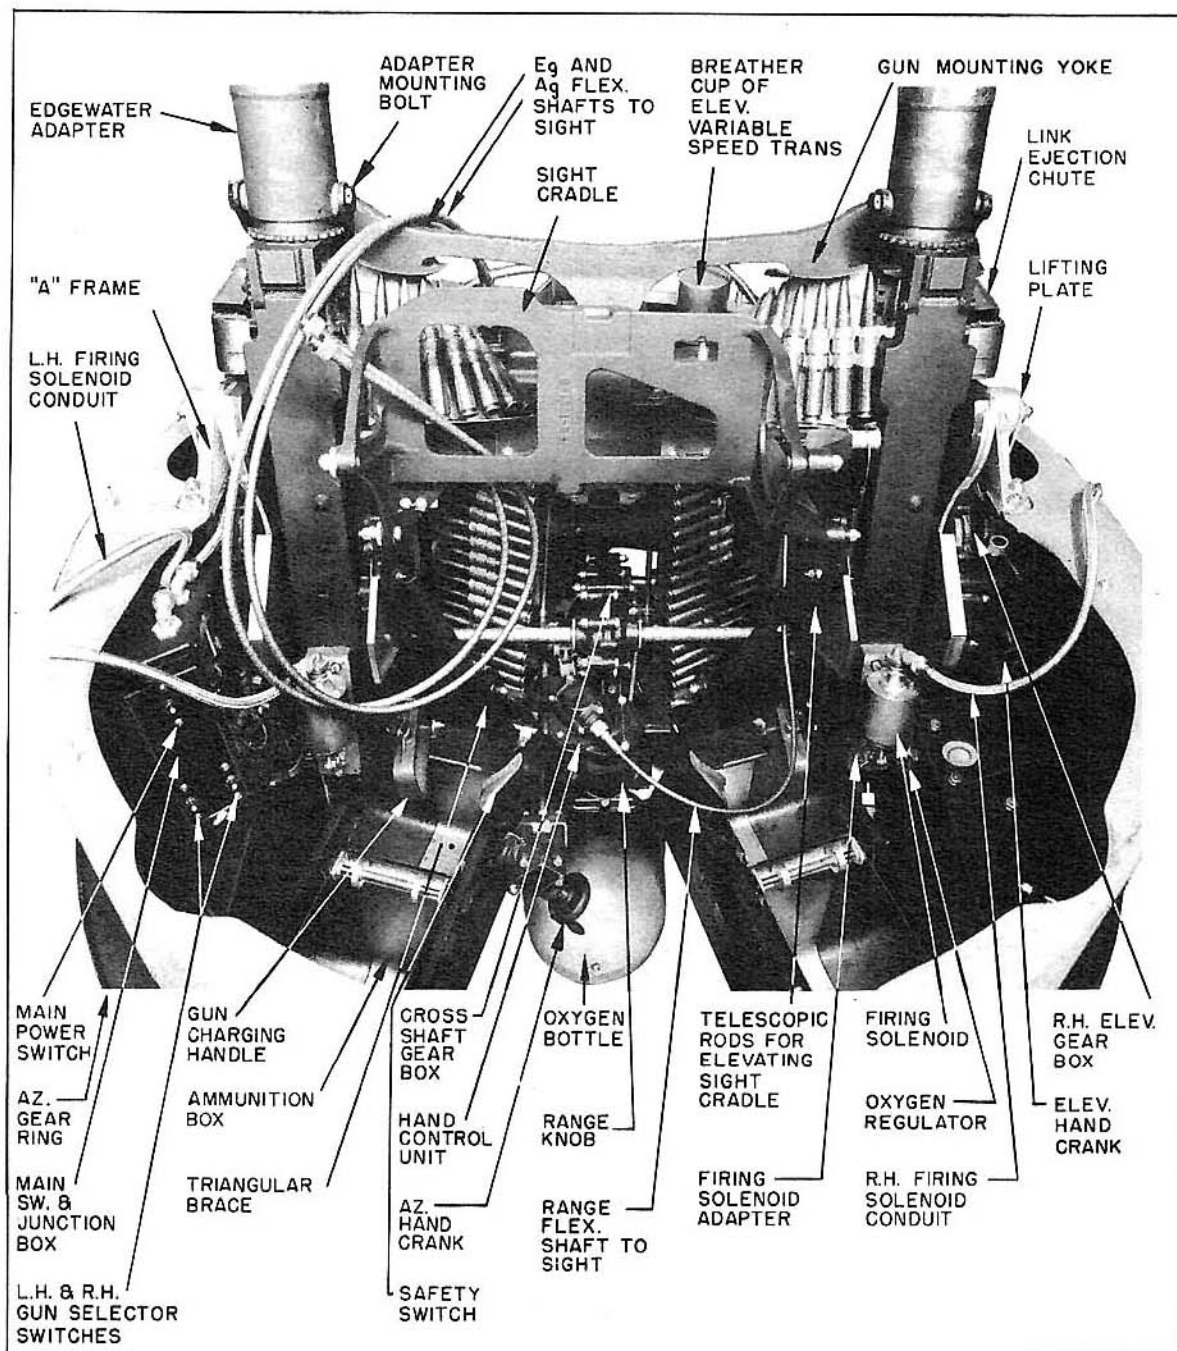

FIGURE 1
3. Turret Into Airplane. - a. Fasten the hoisting cables to the lifting plates (see Figure 1) provided on opposite sides of the turret, using sling spreader T-44051.